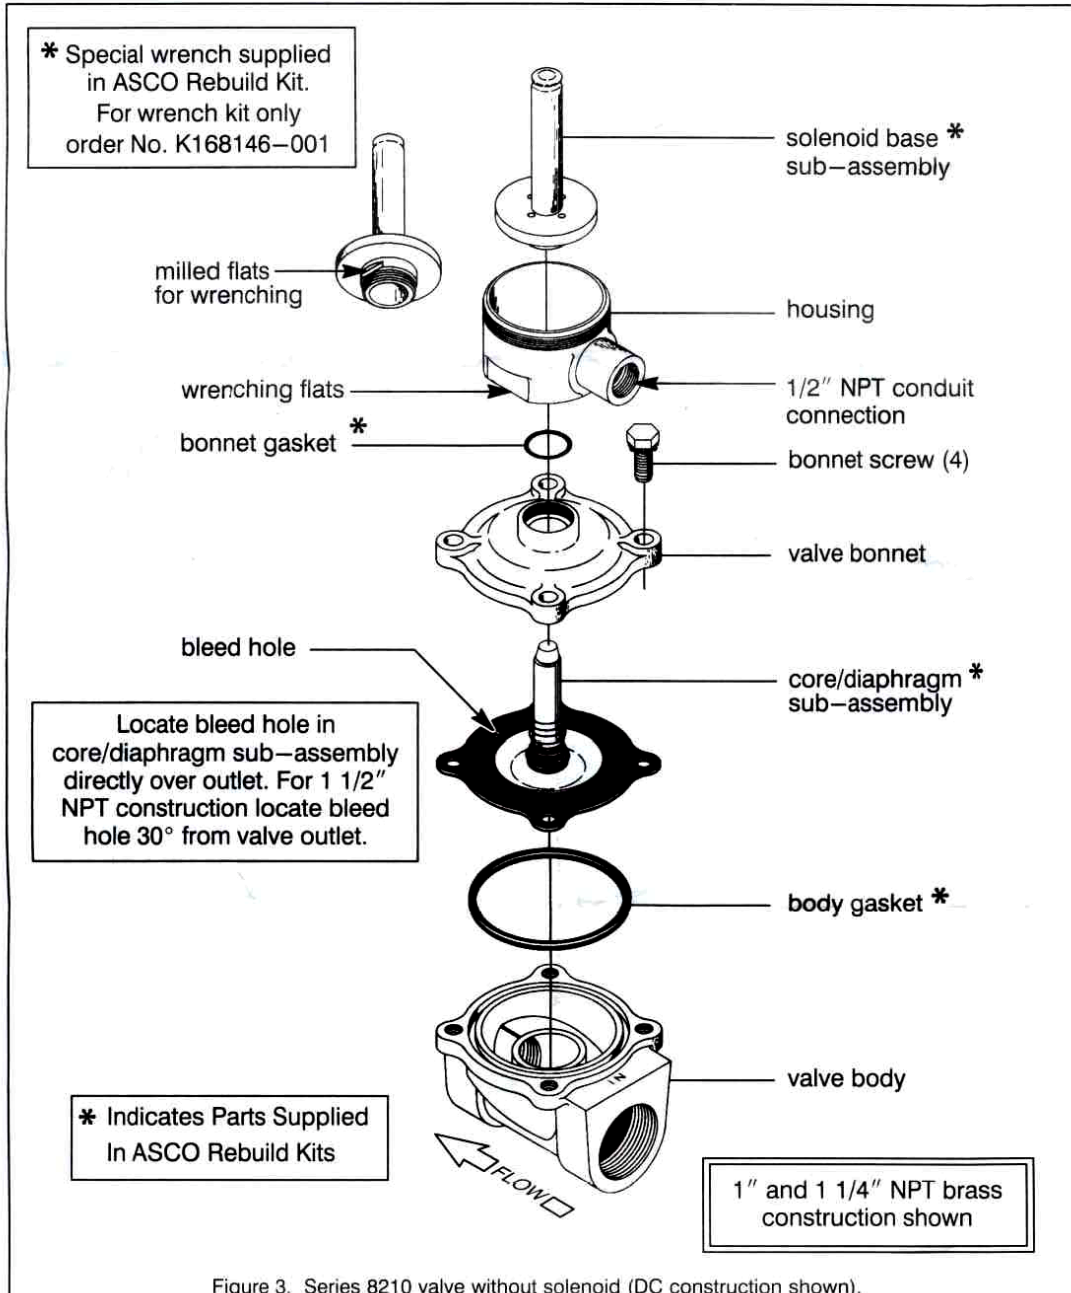

Figure 3. Series 8210 valve without solenoid (DC construction shown).
- **Junction Box:** This junction box construction meets Enclosure Types 2, 3, 3S, 4, and 4X. Only solenoids with 1/4" spade or screw terminals may have a junction box. The junction box provides a 1/2" conduit connection, grounding and spade or screw terminal connections within the junction box (See Figure 3).